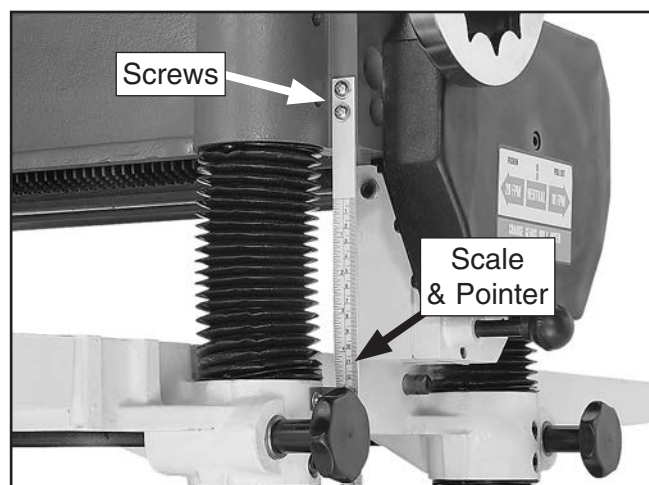

Figure 44. Table height scale.
3. If there is a discrepancy between the board thickness and the reading on the table height scale, loosen the two screws shown in **Figure 44**, adjust the scale in relation to the pointer, then re-tighten the screws.